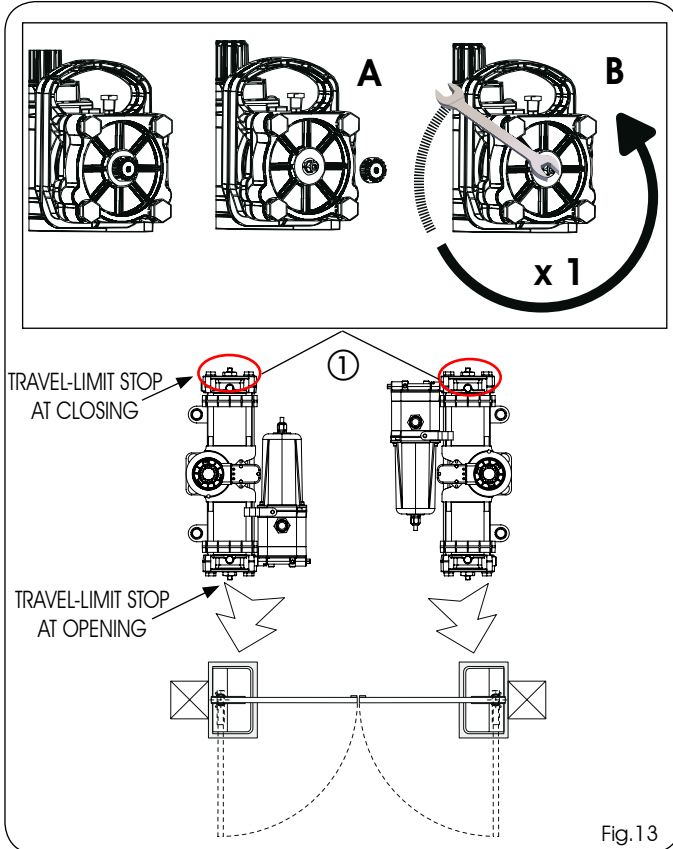

Fig.13
- 3) On the operator, unscrew the cap (Fig.13 ref.A) of the closing travel-limit screw (Fig.13 ref. ①) and check if the screw is completely tight.
- 4) **Unscrew the closing travel-limit (Fig.13 ref.①) screw by one turn (IMPORTANT FOR CORRECT COUPLING OF THE PINION-MECHANICAL RELEASE DURING INSTALLATION).**